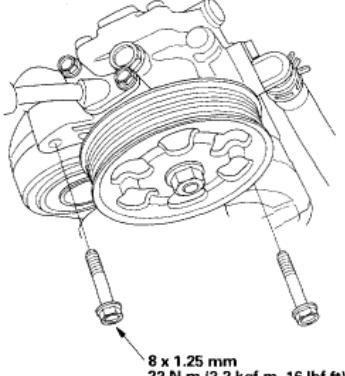

Figure 2
4. Remove the power steering pump mounting bolts (Figure 2) and position pump off to the side.
10. Reinstall the power steering pump. Torque power steering bolts to 16 ft lbs/22Nm. (Figure 2)
4. Ôter les vis de fixation de la pompe de servo-direction (figure 2), et écarter la pompe de servo-direction.
10. Réinstaller la pompe de servo-direction. Serrer les vis de montage de la pompe de servo-direction au couple de 16 lb.pi (22 N.m). Figure 2